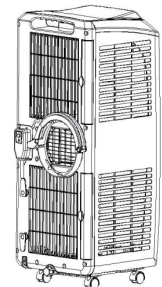

Figure 2
- 3) Rotate the C shape buckle of the heat exhaust hose that is sided into place counterclockwise to clip the snap joint of the C shape buckle of the back shell successfully through the guide of the slide way of the back shell (as shown in Figure 2).